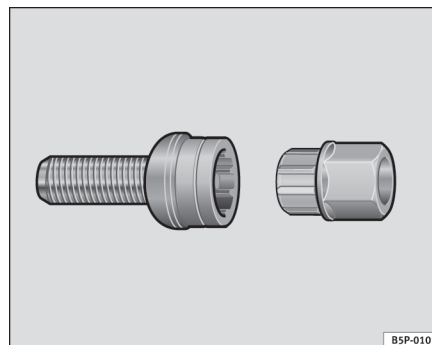

Fig. 182 Anti-theft wheel bolt
- Insert the adaptor onto the wheel bolt and push it on as far as it will go ⇒ page 242, fig. 182.